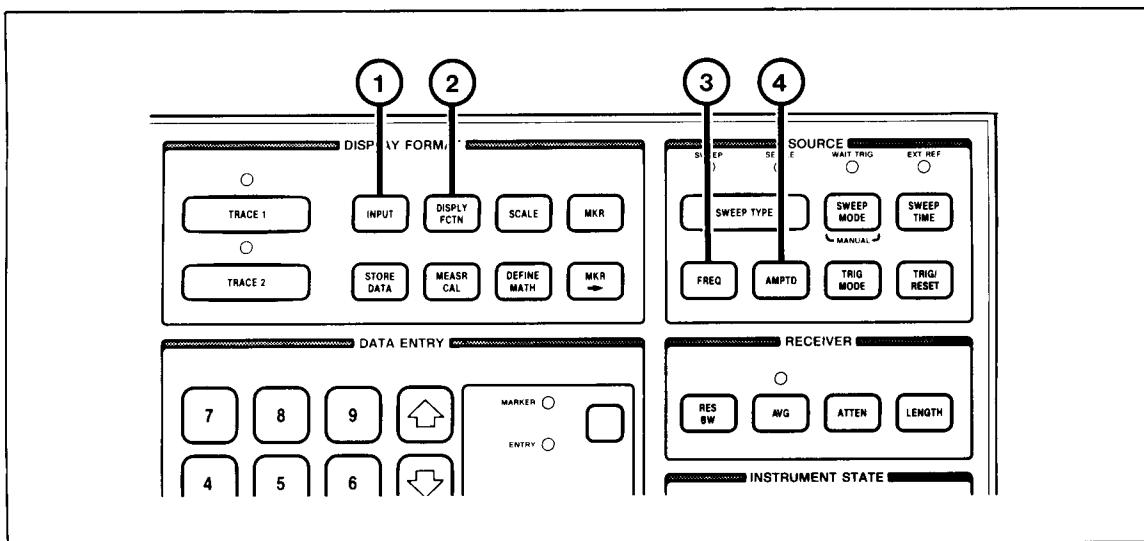

Figure 1•1 Setup Sequence
2. The recommended sequence for setting up a measurement is 1) INPUT, 2) DISPLAY FCTN, 3) FREQ, 4) AMPTD. This sequence is a good, general start for setting up an instrument state and should be easy to remember. See the circled numbers in Figure 1•1.